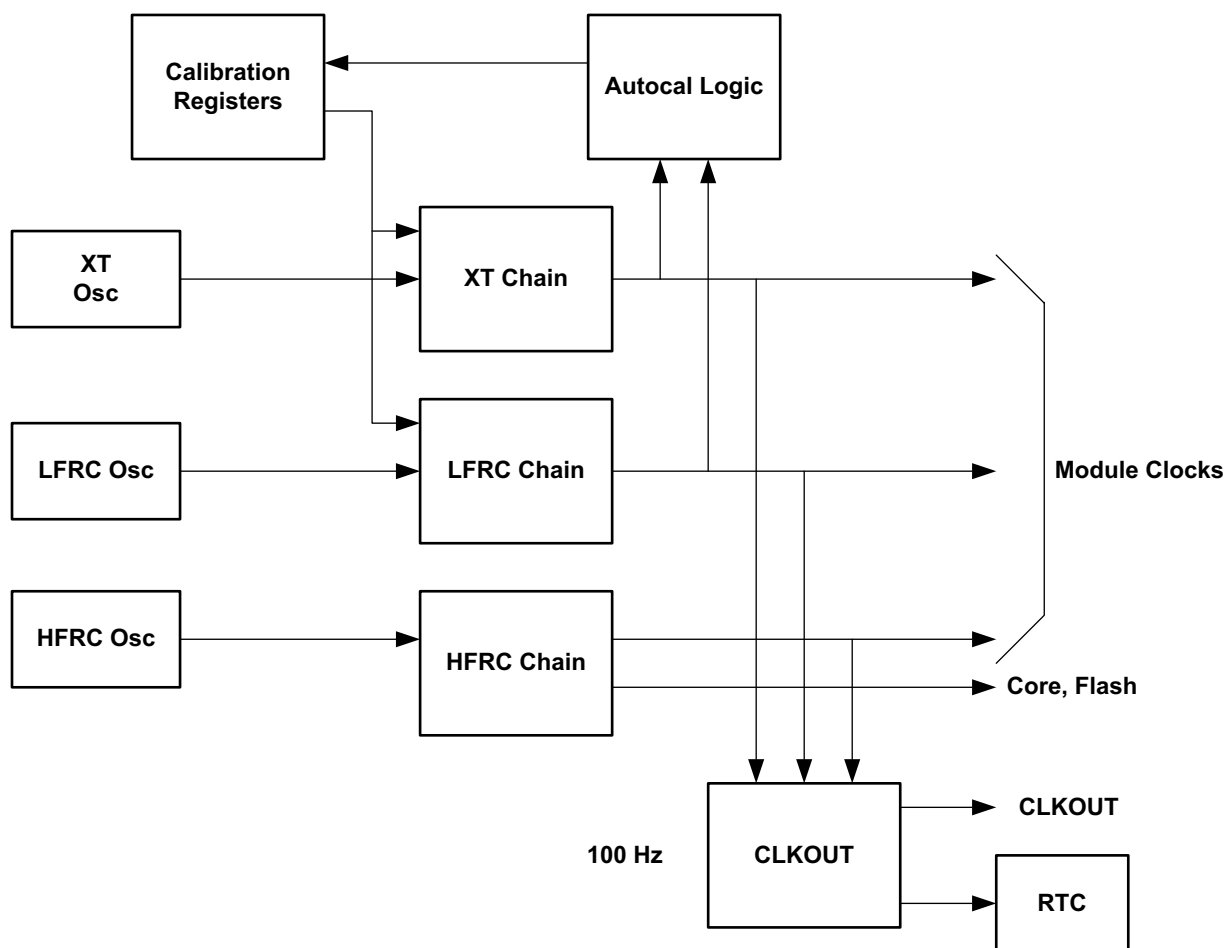

Figure 49. Block diagram for the Clock Generator and Real Time Clock Module
A high-level view of the Clock Generator Module, which supplies all clocks required by the Apollo2 MCU, is shown in Figure 49. These clocks are derived from one of three fundamental clock sources: a high precision crystal controlled oscillator (XT), a low power 1 KHz RC oscillator (LFRC) and a high frequency 48 MHz oscillator (HFRC).